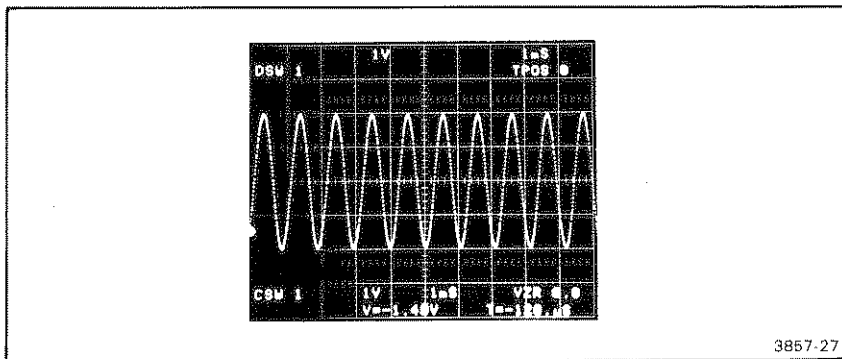

Figure 2-17. Sine-wave display.
displayed. Initialization sets the 7D20 to digitize signal information into waveform memory 1 and also establishes waveform memory 1 as the cursor waveform. The sine-wave signal is currently visible in the display (see Fig. 2-17) and MEMORY DISPLAY key 1 illuminated. Because of initialization, waveform memory 1 is the only memory that contains waveform data at this time. The other memories (2 through 6) have no stored data and, if selected for display, will show a center horizontal line.